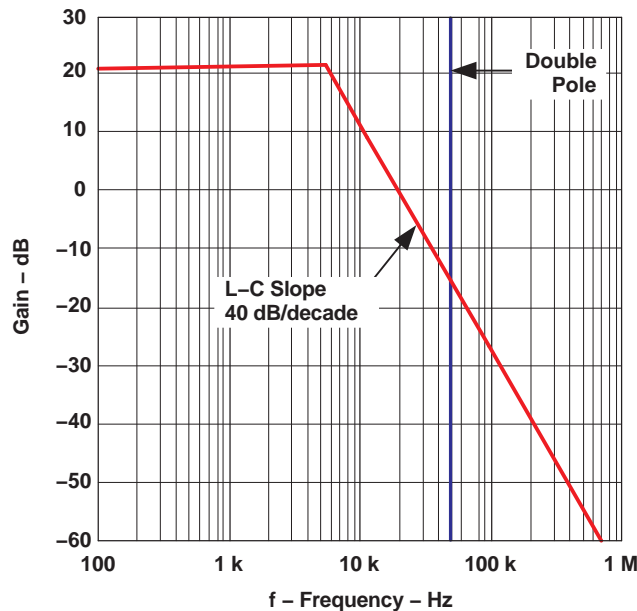

Figure 25. PWM and L-C Filter Gain
A Bode plot of the PWM and LC filter is shown in Figure 25.
4. From Figure 25, the required gain is calculated at 15.8 dB. Equation 43 sets the value for R_{PZ2} . A resistor for R_{PZ2} with value of 12.7 k Ω is used. C_{Z2} is calculated using Equation 47 and the desired frequency for the second zero, $C_{Z2} = 1475$ pF. A 2200 pF capacitor is used.